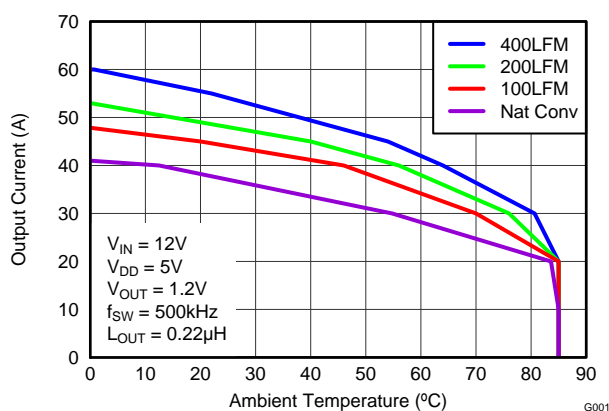
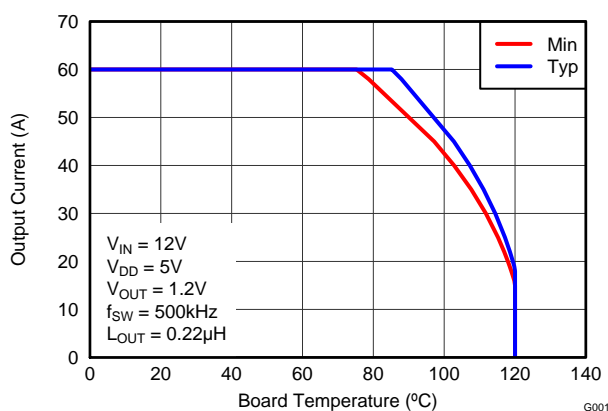

Figure 5. Safe Operating Area – PCB Horizontal Mount (1)
Figure 6. Typical Safe Operating Area (1)
The SOA curves in the CSD95372AQ5M datasheet give engineers guidance on the temperature boundaries within an operating system by incorporating the thermal resistance and system power loss. Figure 5 and Figure 6 outline the temperature and airflow conditions required for a given load current. The area under the curve dictates the safe operating area. All the curves are based on measurements made on a PCB design with dimensions of 4.0" (W) x 3.5" (L) x 0.062" (T) and 6 copper layers of 1 oz. copper thickness.